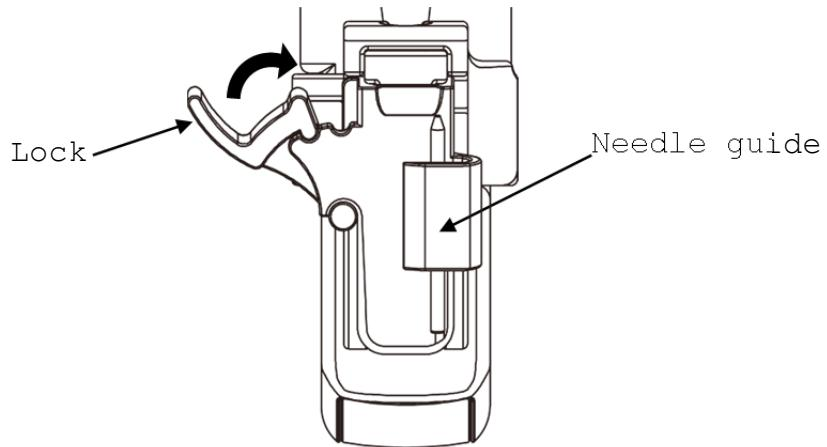

Fig. 15 Attaching the needle guide
- 2) Push the lock toward the bracket to secure the lock. Make sure the needle guide is firmly attached to the bracket. (See Fig. 15)